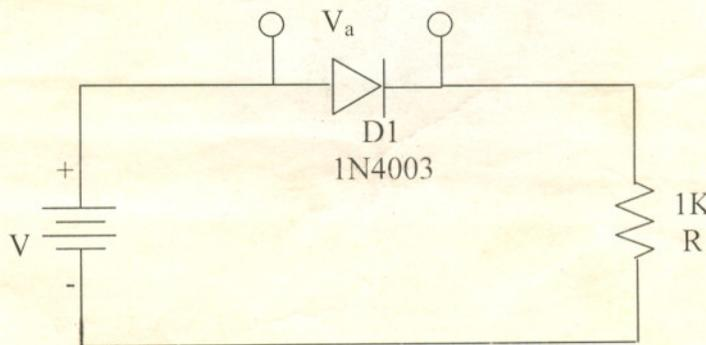

Fig.1 (a)
A p-n junction diode is a two-terminal device that acts as a one-way conductor. When a diode is forward biased as shown in Fig. 1(a), current I_D flows through the diode and current is given by
When it is reverse biased as shown in Fig. 1(b), $I_D = -I_S$ (for see eqn. (2)). As it is generally in pA (pico-amp) range, in many applications this current is neglected and diode is considered open.